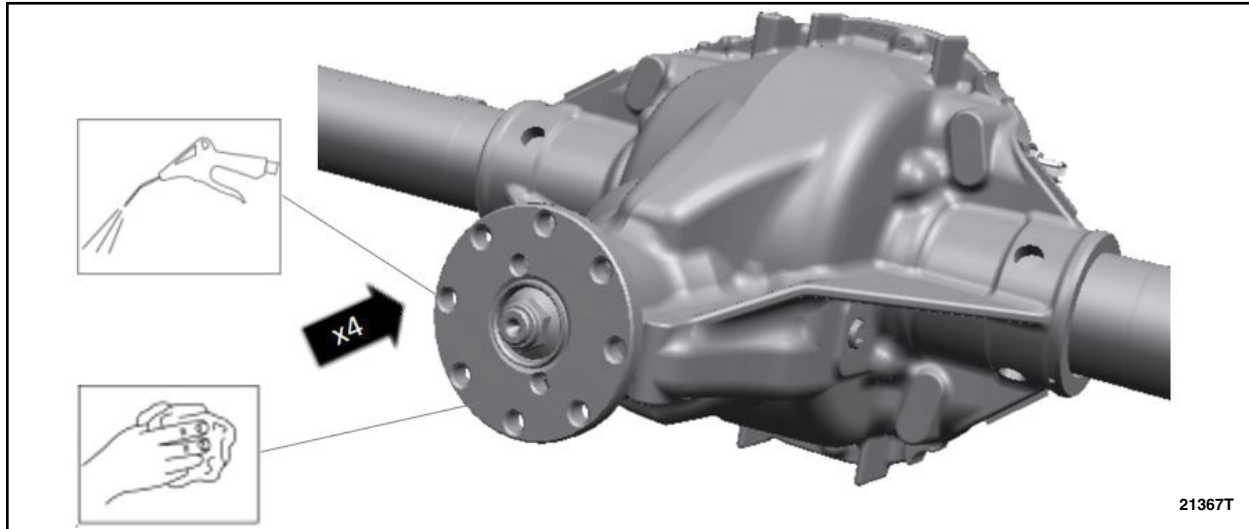

FIGURE 11
14. Using an air blow gun, remove any debris from threaded holes in axle flange. See Figure 11.